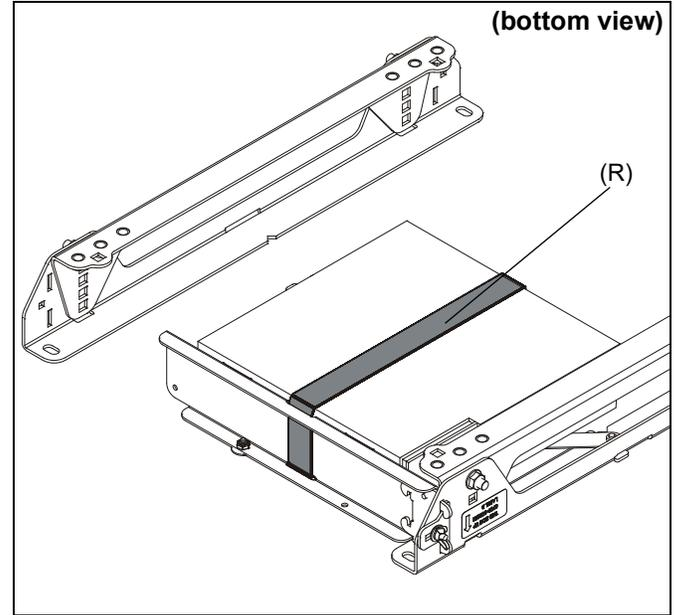

Figure 7
- Use hook and loop strap (R) to secure CPU to shelf (C). (See Figure 7)